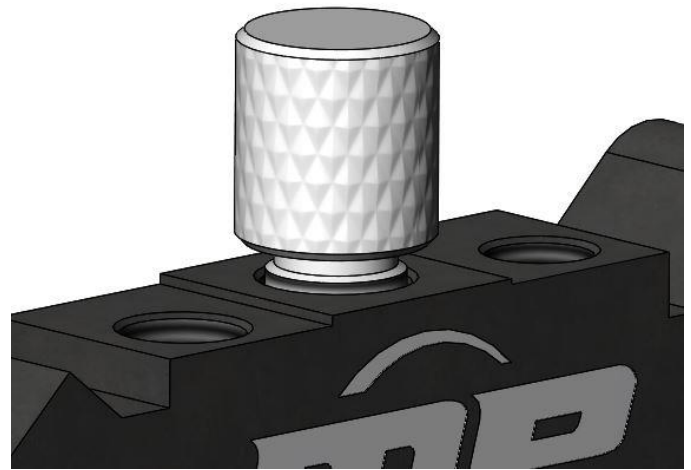

Figure 1b – Tool Installed in the Combination Valve
2. Thread the tool into the Combination Valve as seen in Figure 1b. **NOTE:** Do not force the tool in place. If it won't thread into place, it is possible that the valve is not centered and will need to be centered before installing.